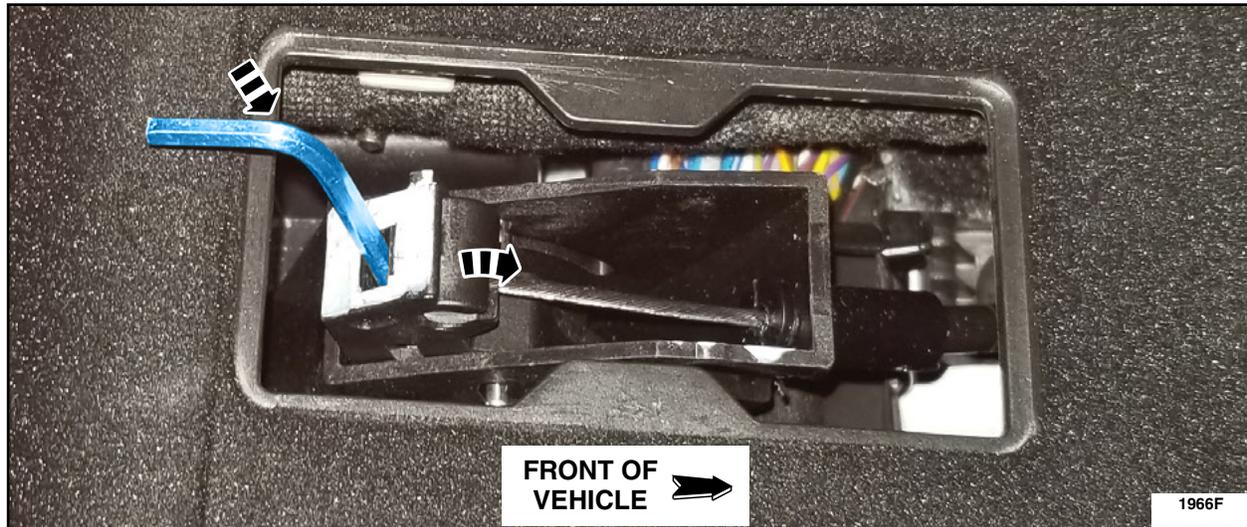

FIGURE 6
- Using the palm of your hand, press downward on the Allen wrench until you hear or feel a pop and the MPR lever has released and is positioned fully forward. Remove the Allen wrench. See Figure 6.